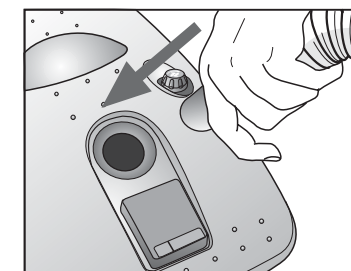

Fig. 5
- You can also plug the union (1) into the rear - blow - socket (H) as illustrated in fig. 5 and 6. This can be done once the muffler (I) has been removed.